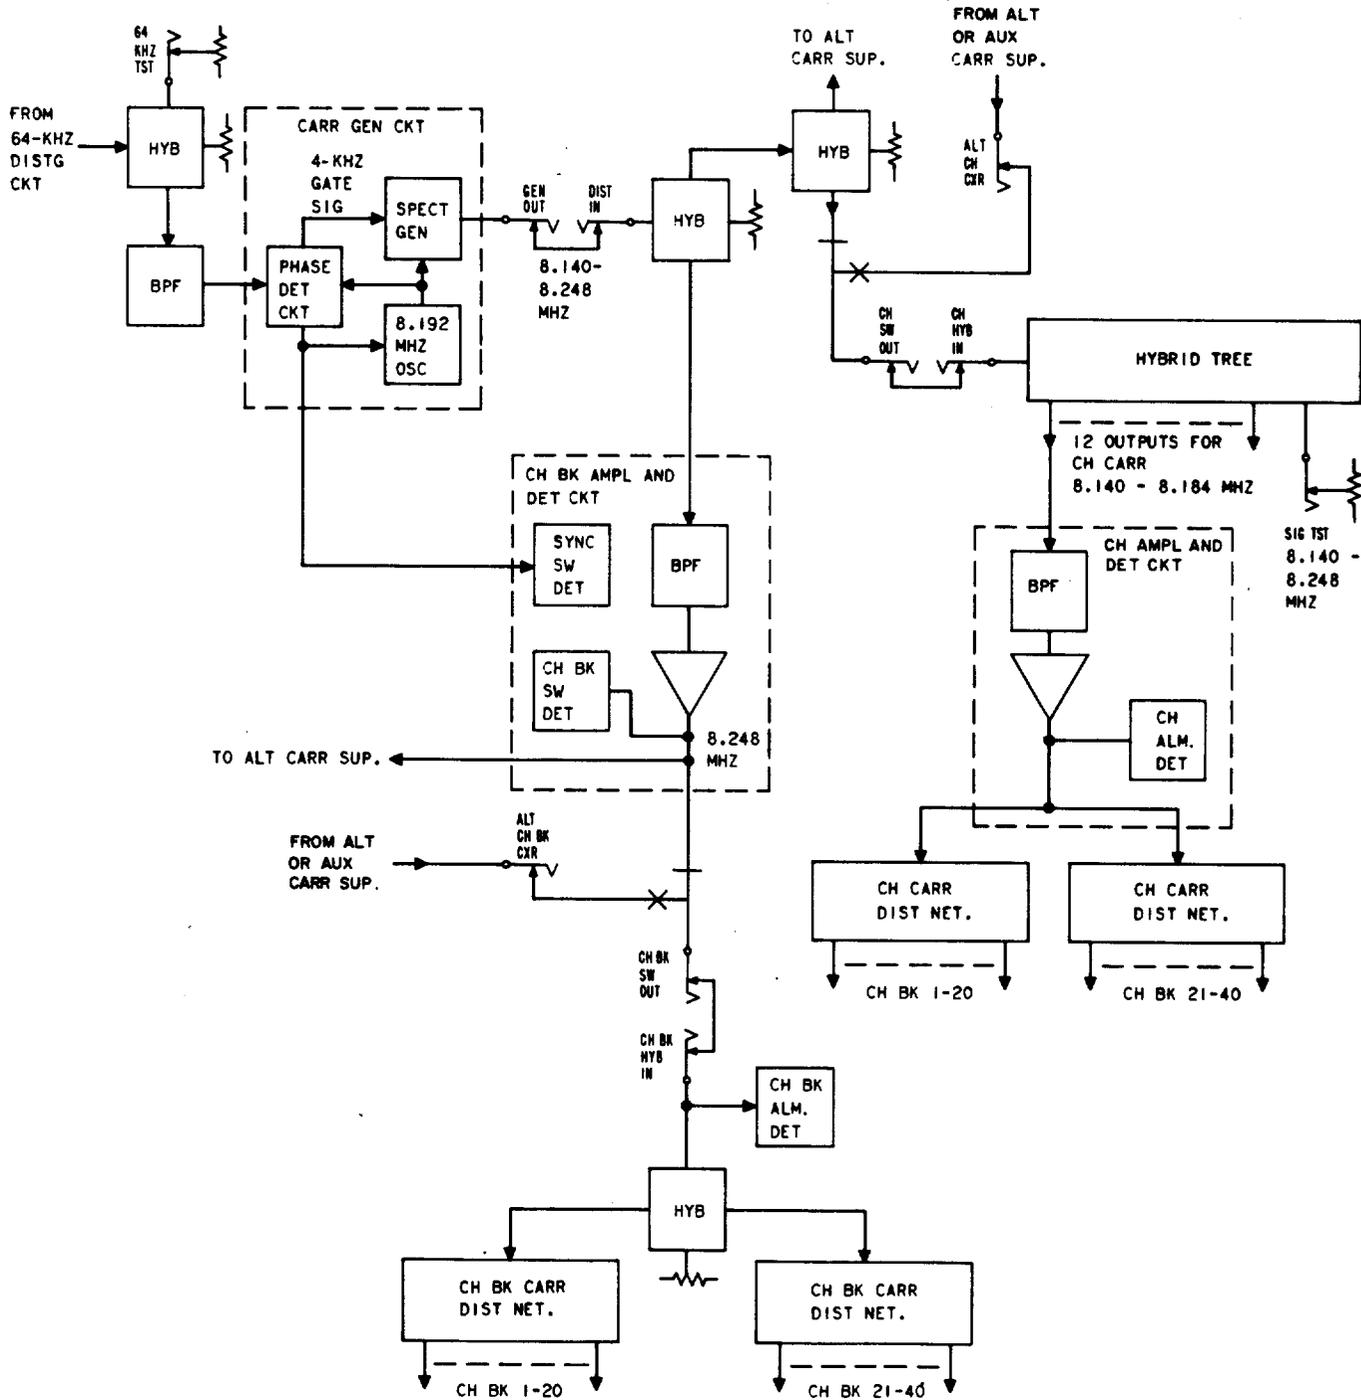

Fig. 3—A6 Regular Carrier Supply
3.02 The carrier supply generating circuit consists of a 64-kHz input circuit, a carrier generator circuit, a splitting network, a hybrid tree, 12 channel amplifiers, one channel bank amplifier, and a channel bank hybrid. The carrier distributing circuit consists of 12 channel carrier distribution networks and one channel bank carrier distribution network. This arrangement, including associated patching and alarm detector circuits, is illustrated in Fig. 3 and 4.
3.06 The band of frequencies applied to the channel circuits (Fig. 3 and 4) contains the 12 channel carrier frequencies (8.140, 8.144, 8.148...and 8.184 MHz). Twelve separate signal paths and a test connection are provided by means of a hybrid tree circuit. The 12 channel frequencies are extracted by means of corresponding monolithic-crystal bandpass filters located in the 12 channel carrier amplifier units. Then they are amplified and applied to 12 resistive-type carrier distribution networks. Discrete channel carrier frequencies are applied, at a power of -32 dBm, to the channel modems for a maximum of 20 A6 channel banks in the first bay and 20 in the second bay.